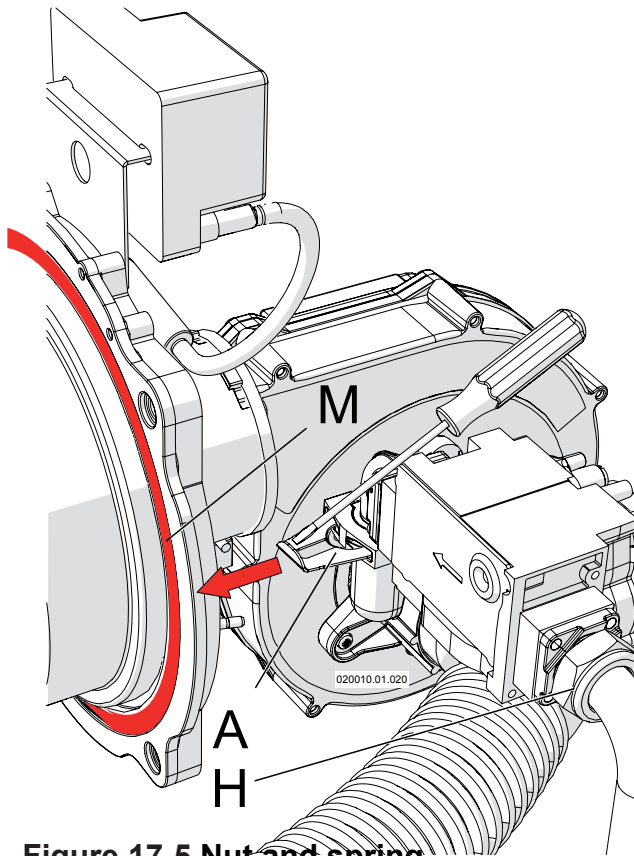
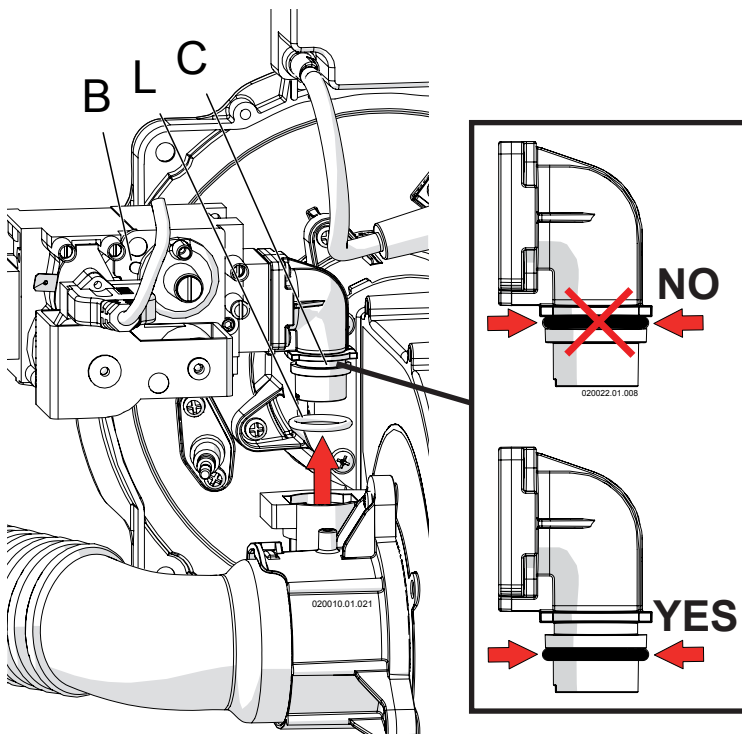

Figure 17-5 Nut and spring that fixes the gas valve
Figure 17-6 Remove the gas valve
7. unscrew nut "H" (Figure 17-5). Pay attention to the gasket between nut "H" (Figure 17-5) and the gas valve.
8. take away the spring "A" as per Figure 17-5. Help yourself with a screwdriver;
10. Remove the gas valve from its position (see Figure 17-6). Take care attention to the o-ring "L" of Figure 17-6;
17. replace gasket "M" as per Figure 17-5 (Part number for this gasket is 60703047). Take care that the gasket and its site are clean.
⚠ WARNING!!! Pay attention to the gasket "M" (Figure 17-5) during reassemble. When finished, perform a leakage test with the burner firing. Always use an approved leak detection method. Failure to comply with this warning can cause fire, extensive property damage, severe personal injury or death!
18. reassemble the components by proceeding in reverse order. Pay attention in the reinstalling of gasket between nut "H" of Figure 17-5 and of the o-ring "L" of Figure 17-6. These must be in good condition. If not they must be replaced with;